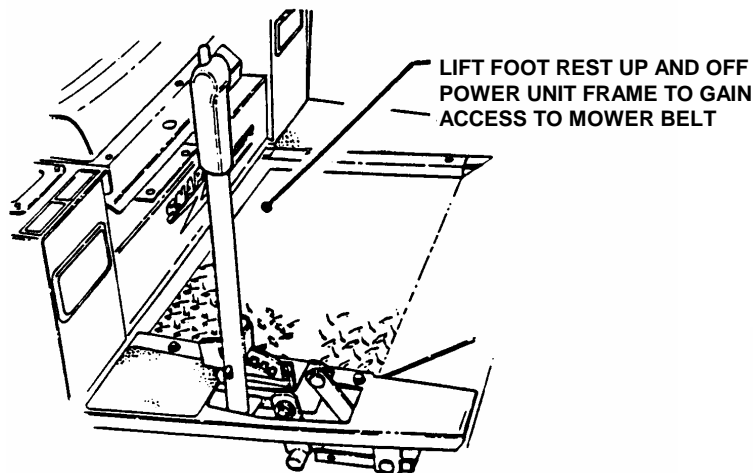

FIGURE 4.3
- Remove footrest. See Figure 4.3.
3. Disconnect parking brake rod from parking brake. See Figure 4.3.